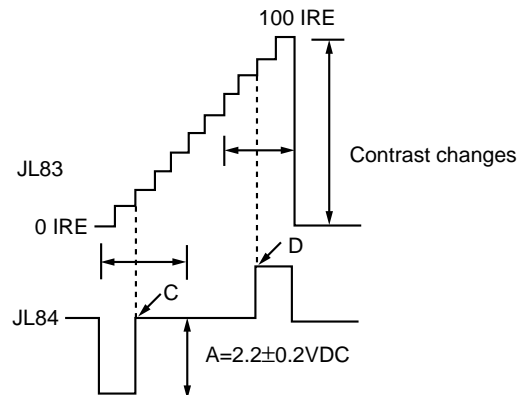

Fig. 3-5
2. Observe the waveform across JL83(G) and JL67(GND).
5. Check the waveform as shown in Fig. 3-5.
6. At the same time, check the points C and D are within the period as shown in Fig. 3-5.